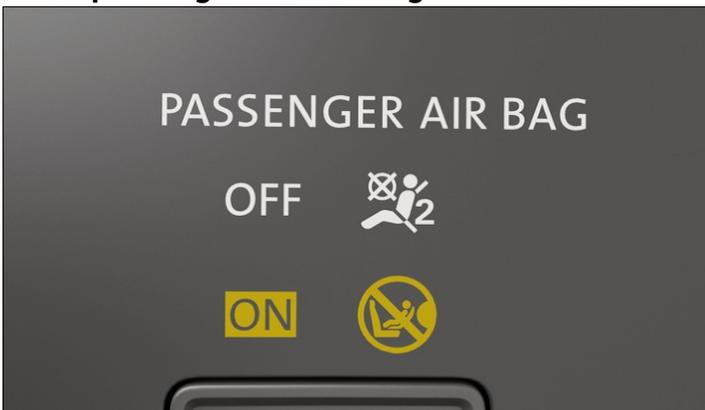

Fig. 2 In the centre console: indicator lamp for activated front passenger front airbag (depending on country).
**ON**  The yellow indicator lamp for the switched on front passenger front airbag lights up for around 60 seconds after the ignition has been switched on or after switching on the front passenger front airbag with the key-operated switch → Fig. 2 and then switches off again automatically.